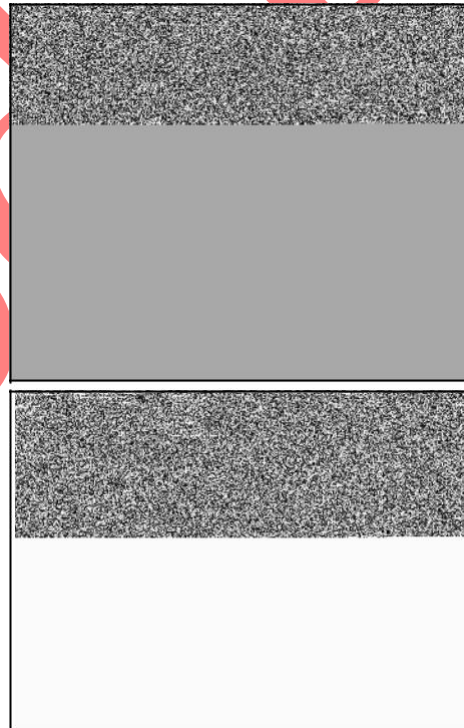

Figure 2
2. Unscrew and/or pry off static guard (A, Figure 2).
3. Unscrew and remove fuel tank (B).